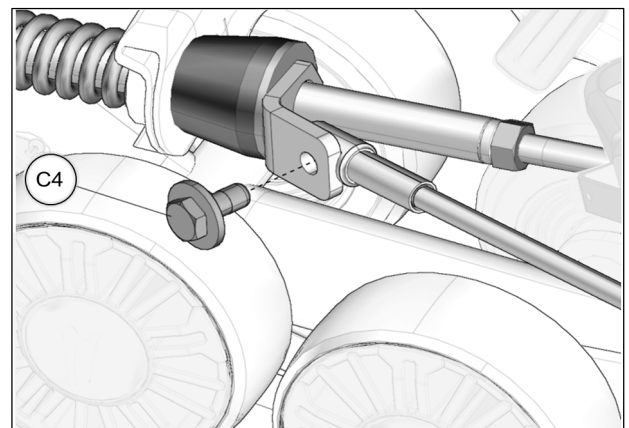

Fig. 25
16. Reverse steering wheel a little to be able to bolt support plate and cable together. Tighten provided bolt (C4) to 35 N•m [24 lb•ft]. See Fig. 25. Repeat steps on right side.